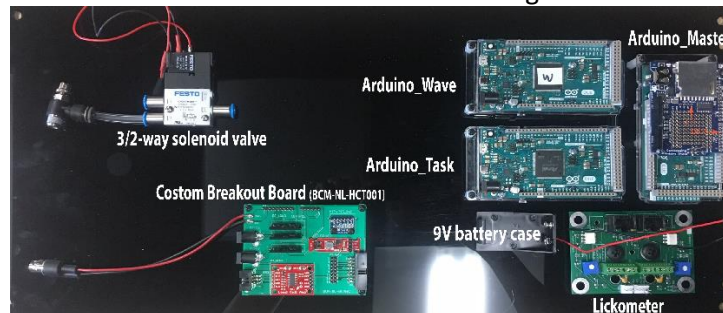

Fig.1.3
- All the circuit boards are mounted on the right side of the enclosure (Fig.1.3).